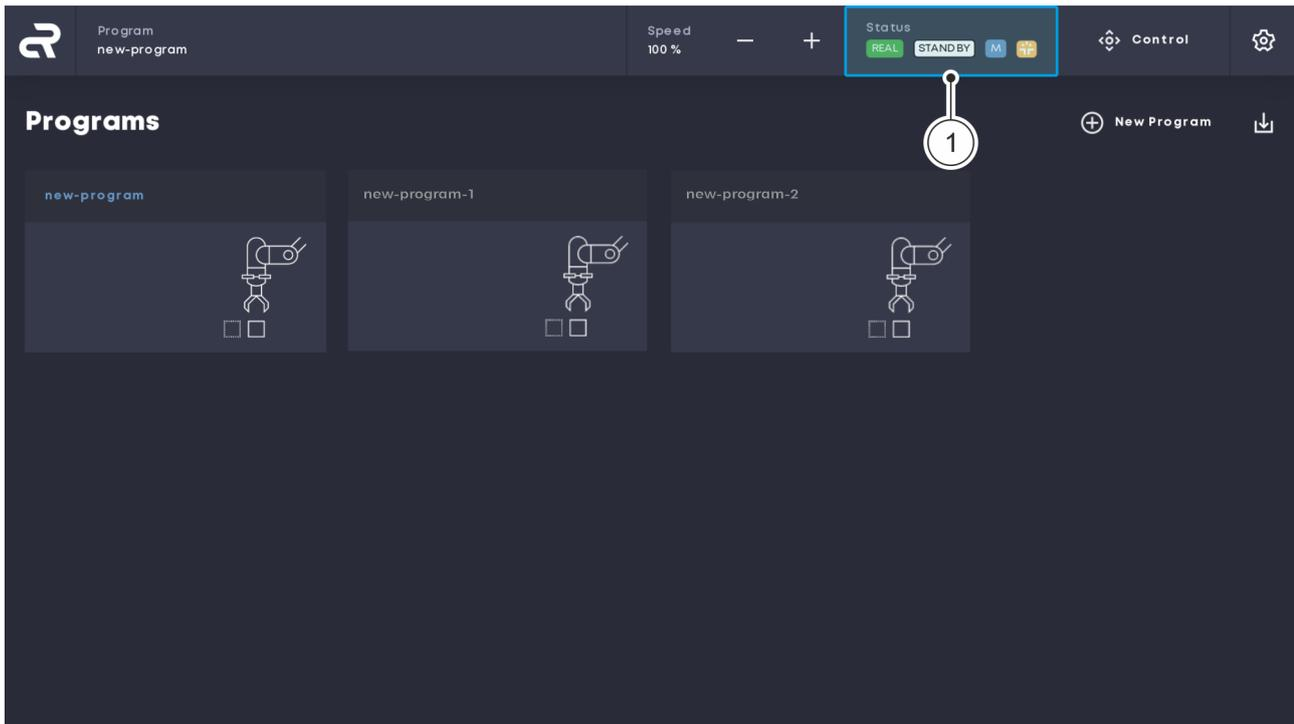

Fig. 63 Main screen
01. On the main screen, click the 'Status' button to open the 'Status' menu Fig. 63/①.